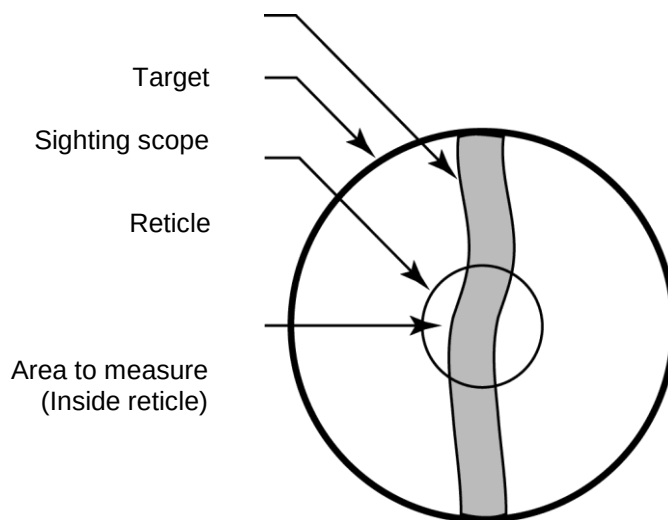

Figure 8: Sensor Eyepiece and Reticle
2. Look through the eyepiece and position the sensor so the target is centered as much as possible in the middle of the reticle, see Figure 8. (Note that the target appears upside down.)